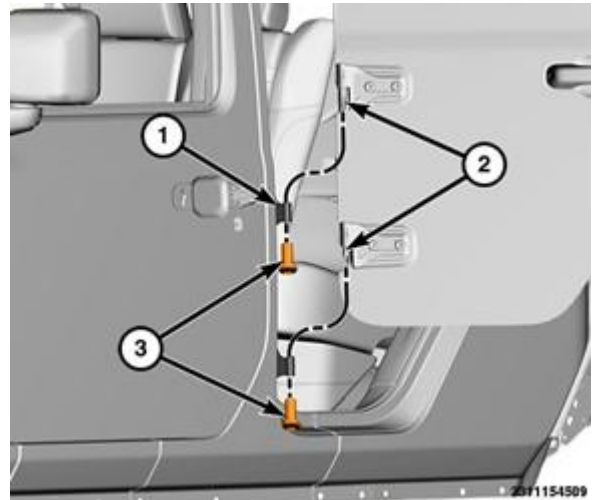

Figure 22 – Hinge Pin Nuts
- 39. Remove the nuts (3) and lift the door up off hinges (1) and remove (Figure 22).
82. Set the door into place on the hinges and install the door hinge pivot nuts. Tighten the nuts to 6N·m (53 in. lbs.) (Figure 22).